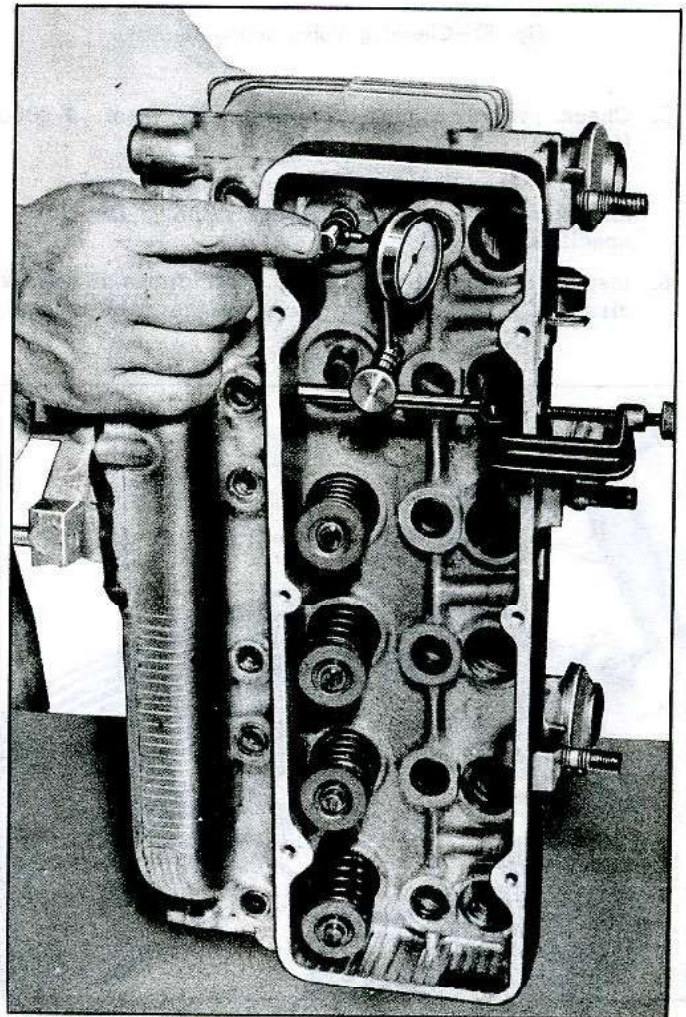

Fig. 82—Measuring Valve Stem Clearance
4. Measure valve stem clearance (fig. 82) as follows: Clamp a dial indicator on one side of the cylinder head rocker cover gasket rail, locating the indicator so that movement of the valve stem from side to side (crosswise to the head) will cause a direct movement of the indicator stem. The indicator stem must contact the side of the valve stem just above the valve guide. With the valve head dropped about 1/16" off the valve seat; move the stem of the valve from side to side, using light pressure to obtain a clearance reading. If clearance exceeds specifications it will be necessary to ream valve guides for oversize valve or replace valve guides as outlined under Repair.